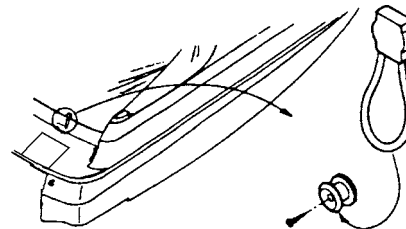

Figure L2: Shock Cords
- If the canvas has shock cords along the aft edge, attach to knobs as shown in Figure L2.
- b. If the canvas has shock cords along the aft edge, attach to knobs as shown in Figure L2.